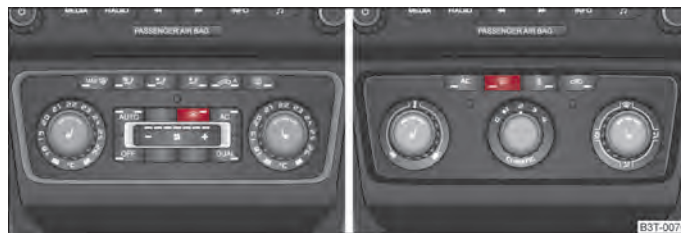

Fig. 47 Switch for windscreen heater/switch for rear window heater
- You can switch the windscreen heater on or off by pressing the switch **(47)** ⇒ fig. 47 - left, the indicator light in the switch comes on or goes out.
- You can switch the rear window heater on or off by pressing the switch **(48)** ⇒ fig. 47 - right, the indicator light in the switch comes on or goes out.